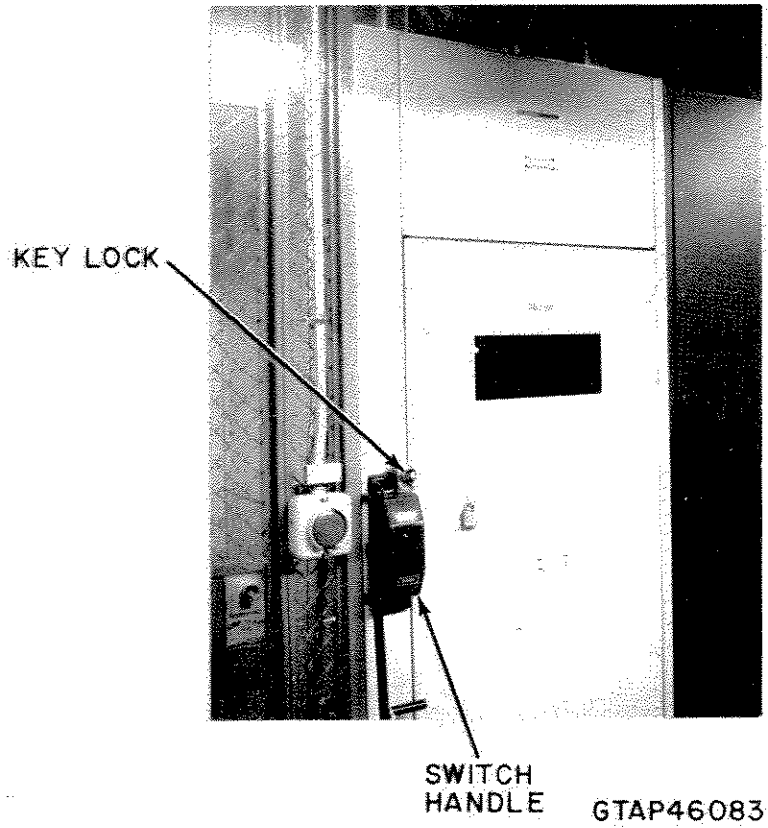

Figure 6-2. Main High Voltage Ac Disconnect Switch, Unit 321
- g. Remove the interlock key from the front of main HVAC disconnect switch cabinet (Figure 6-2). Tag key to denote it is from the main HVAC disconnect switch cabinet.